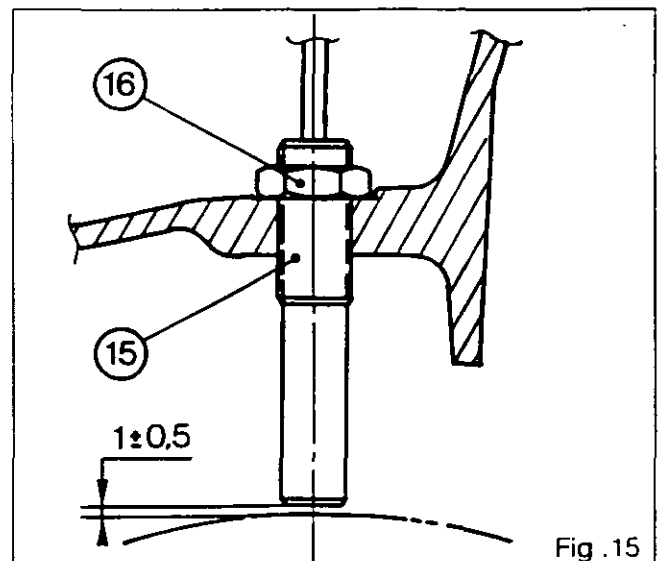

Fig. 15
- . the differential lock supply pipe (3)
- . the cable (4) (4-speed PTO, if fitted)
- . the cable (5) (shiftable PTO, if fitted)
59. Fit the vehicle speed sensor (15) with "Loctite 577 Sensor Sealing" or equivalent (Autotronic, Datatronic tractors) (Fig. 15).
61. Unscrew the sensor 3/4 of a turn so as to obtain a clearance of approx. 1 mm between the sensor and the crownwheel (Fig. 15).
62. Tighten the nut (16) moderately (Fig. 15).